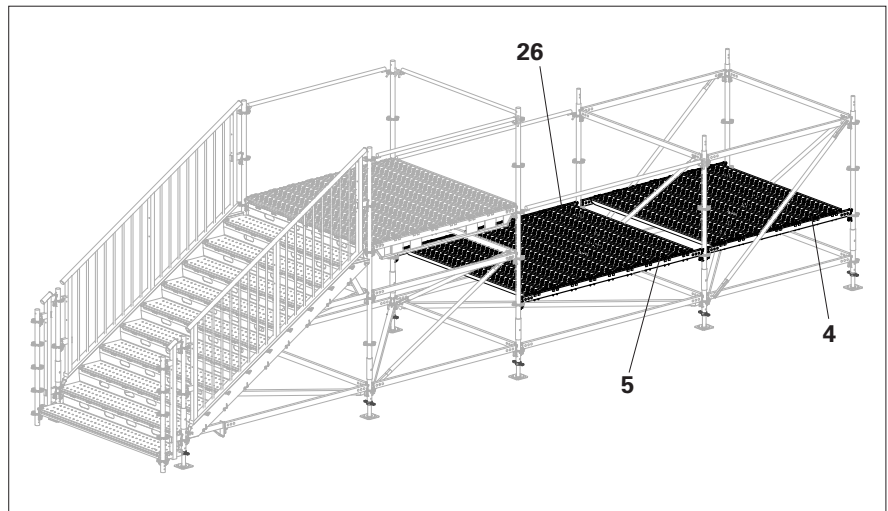

Fig. C1.10
2. Fit 16 x Steel Deck UDG-2 25x200 (**26**). (Fig. C1.10)